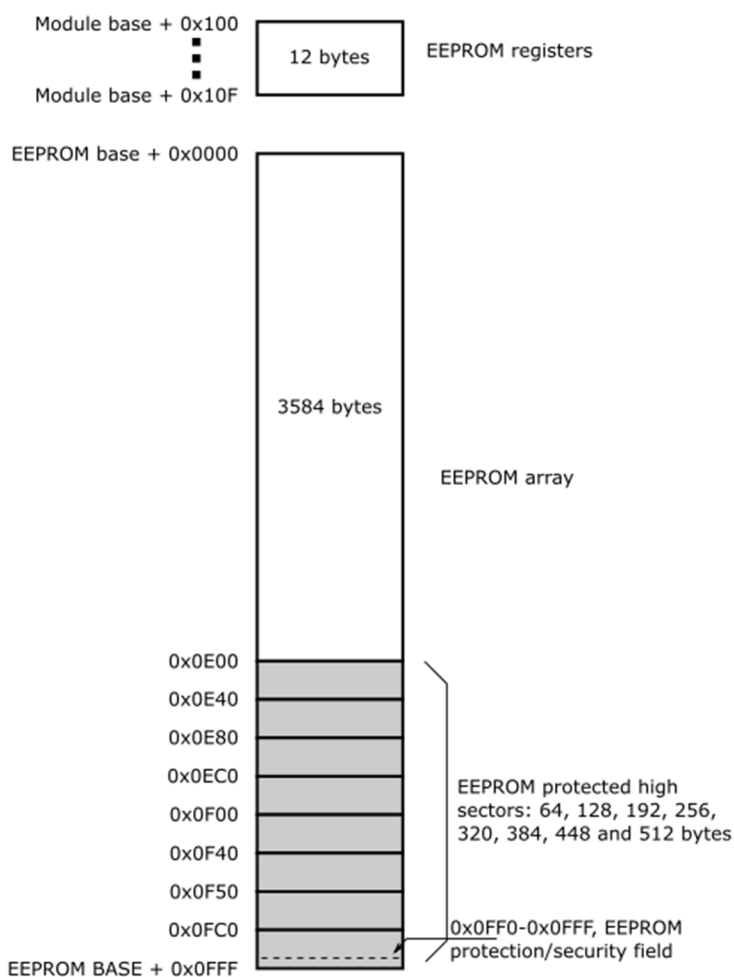

Figure 8.3 S12D256 4K EEPROM memory layout according to [19]
The amount of EEPROM available on S12 chips also varies from none to 8KB. The EEPROM is organized as an array of 2 byte words. The 4K EEPROM of the S12D256 chip has 2048 rows. The size of the erase sector is 2 words or 2 rows (4 bytes). Erased bits will be read as 1 while a programmed bit reads 0. The operations that can be performed on the EEPROM are similar to the ones available for Flash. Figure 8.3 shows the memory layout of the on-chip EEPROM of the S12D256 microcontroller, for other family derivative refer to their corresponding datasheets or user manuals.
- **EPx (EEPROM Protection address Size)** – these bits determine the size of the protected sector in the higher EEPROM address space according to Table 8.5 also illustrated in Figure 8.3.